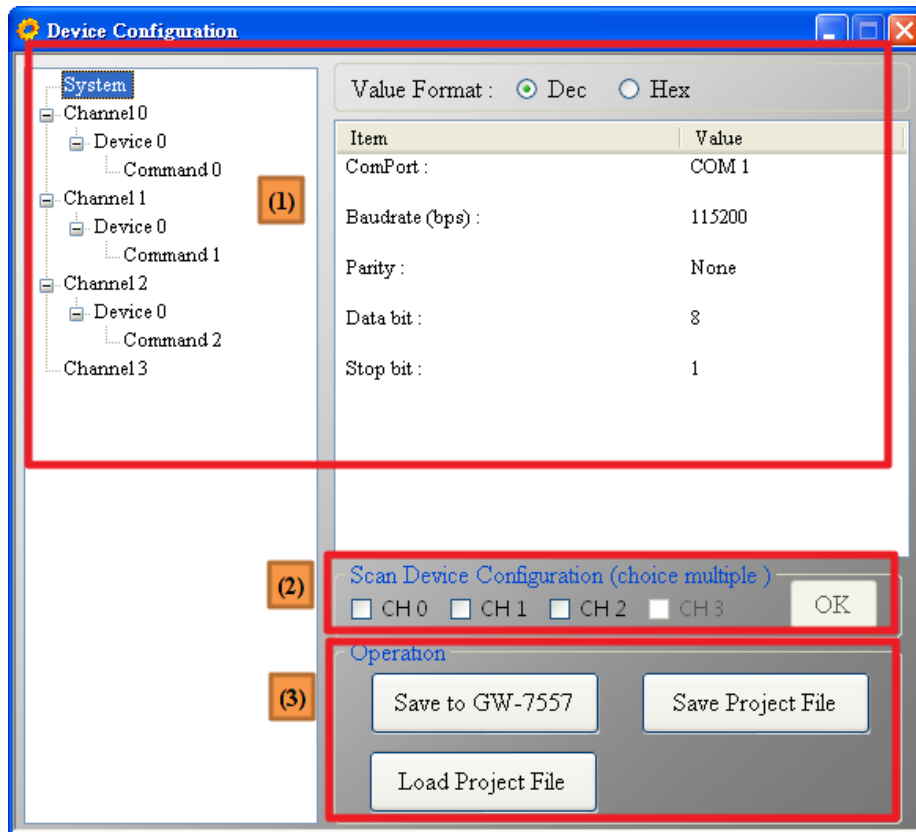

Figure 58 Device Configuration window
In this window, it will show the configuration of the GW-7557 module. The user can setup the configuration of the GW-7557 module here. This window has 3 parts, they are (1) The node information 、 (2) Scan Device Configuration 、 and (3) Operation buttons, as shown in *Figure 58*.
(1) The node information